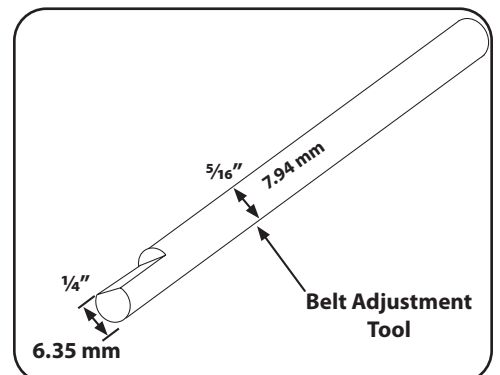

Figure 5-12
1. Before taking a measurement, be sure the linkages and pivot points on the Wheels/Tines/PTO Drive Lever are clean and lubricated. If there is any binding, you will not get true measurements. Also, you will need the belt adjustment tool you received with your new tiller. See Figure 5-12.